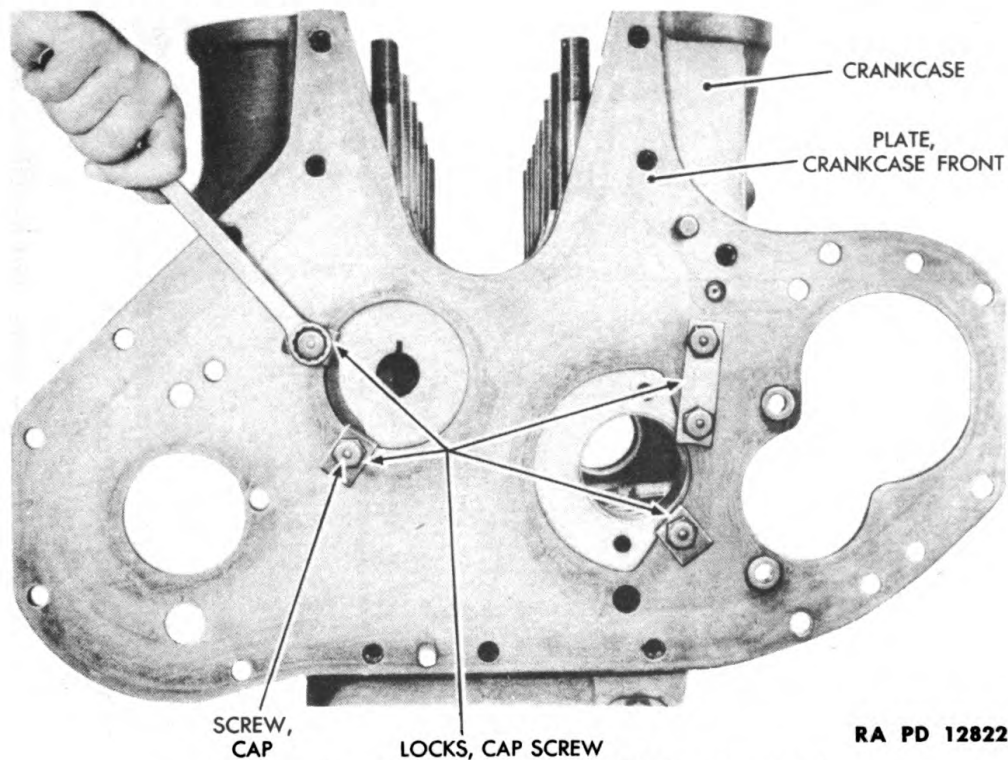

Figure 55—Crankcase Front Plate Removal
(1) RELEASE CAP SCREW LOCKS FROM CAP SCREWS (fig. 55).